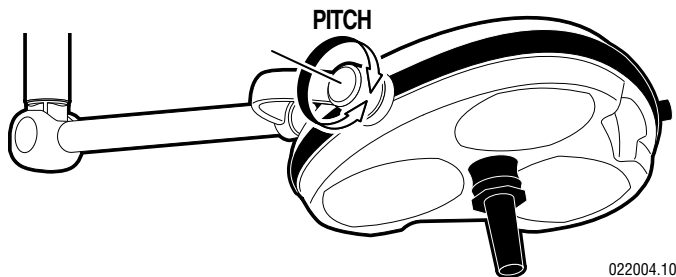

Figure 4-2. Lighthouse pitch
a. Check the pitch axis tension of each lighthouse by moving it through its full range of motion. See figure 4-2.